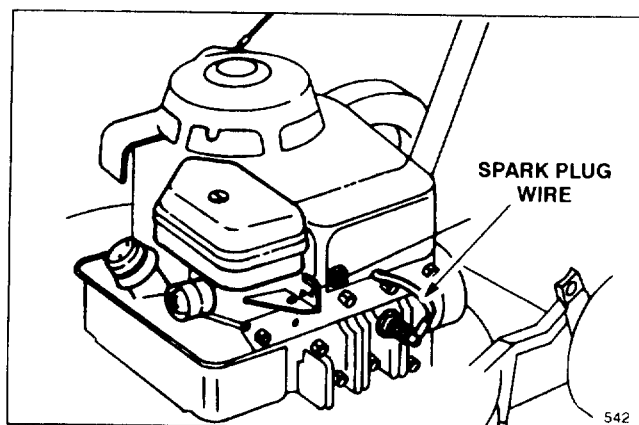

Figure 12
1. Stop engine and pull wire off spark plug (Fig. 12).
1. Stop engine and pull wire off spark plug (Fig. 12)